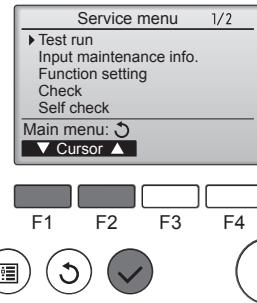

Fig. 8-1
- Select "Test run" from the Service menu, and press the [SELECT] button. (Fig. 8-1)